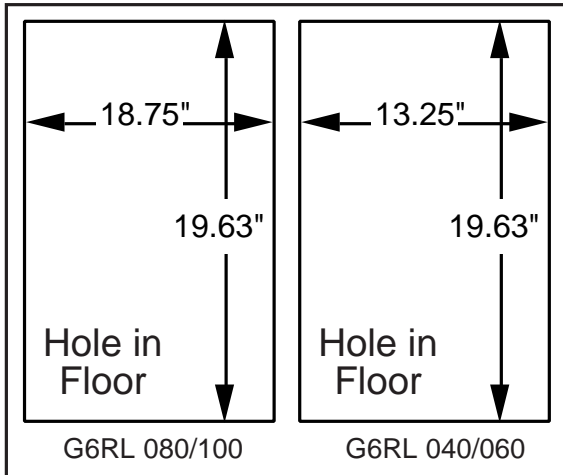

Figure 5. Opening in Wood Floor
1. Cut and frame the hole in the floor per the dimensions in Figure 5.